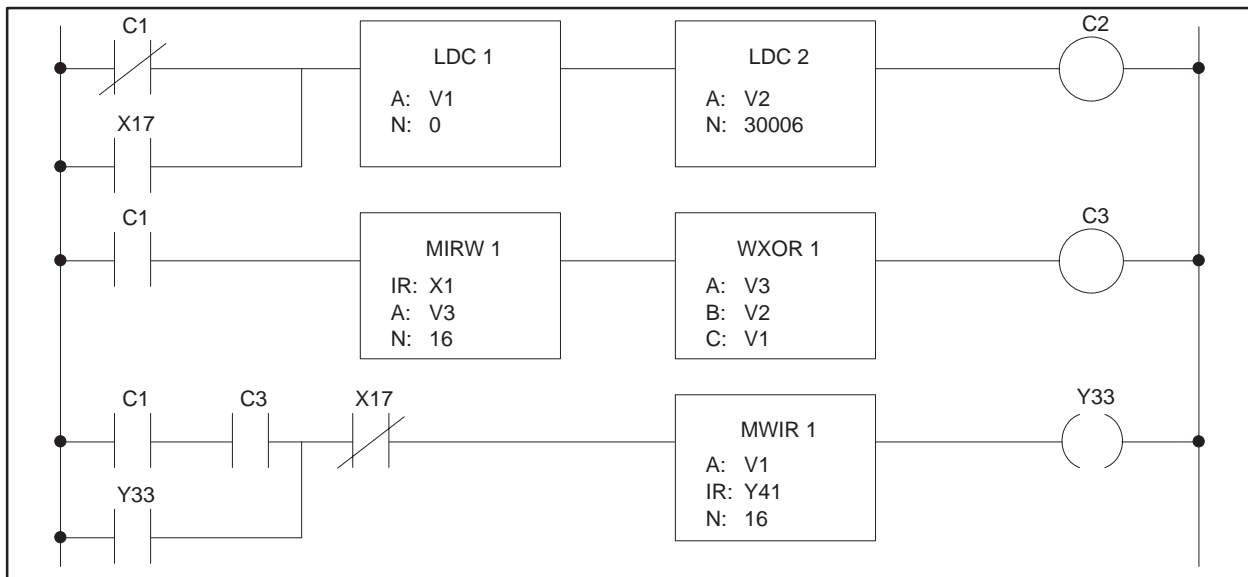

Figure E-21 RLL for WXOR Application Example
**Explanation** This application could be solved with contacts and coils without box functions. To save ladder logic and execution speed, use the RLL shown in Figure E-21.